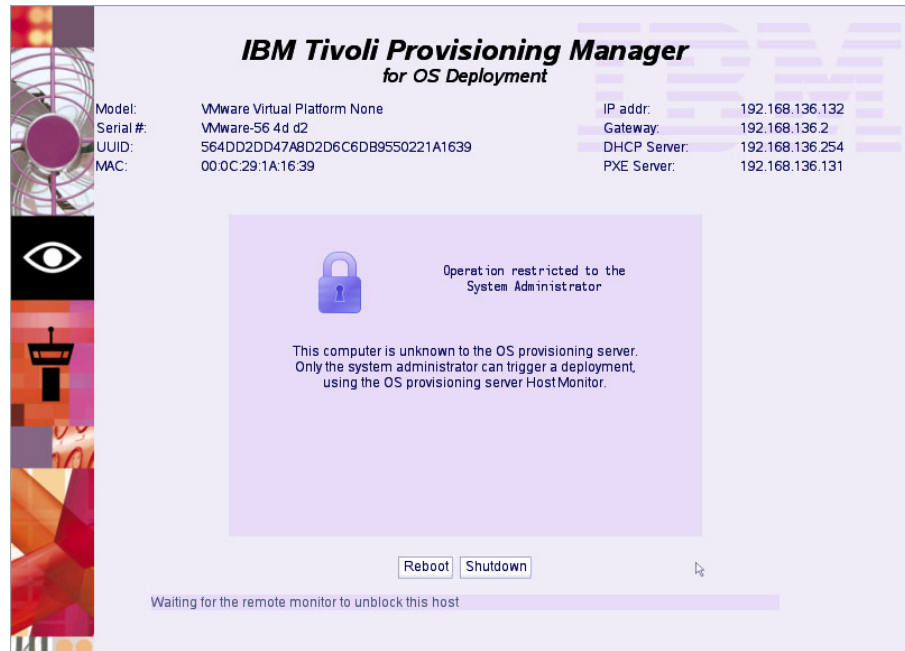

Figure 3-17 A system booted from network and connected to TPMfOSD
1. Power on the SurePOS target machine. Assuming there is no operating system on the system (the hard drive is blank), you can simply let it boot up and it will try to boot the network as part of the regular boot sequence. If there is an operating system, force the system to boot from the network, as described in Appendix A, "Alternate boot sequence on POS systems" on page 133. Once the network boot has completed you should see a screen as shown in Figure 3-17 on page 74.